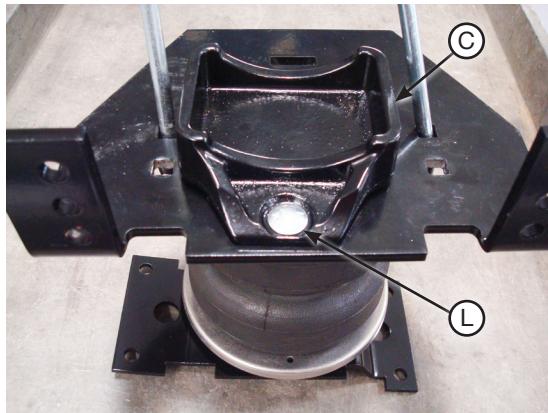

Fig. 13
6. Install the lower bracket cup (C) onto the lower bracket main plate using the 5/16"-18 x 3/4" carriage bolt (L) (Fig. 13). Cap with M8 flat washer (O) and 5/16"-18 nylon lock nut (Q) (Fig. 14). Tighten finger-tight only. Leave loose enough for bracket to move freely in slot.